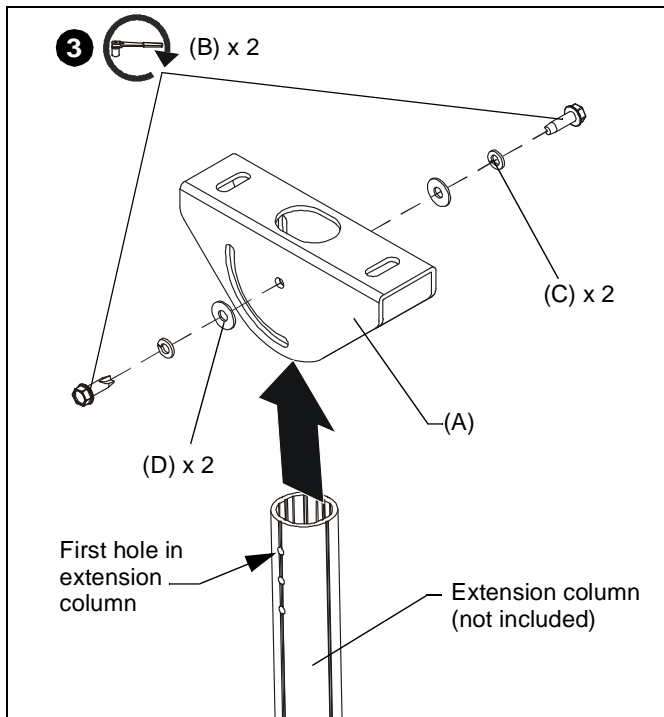

Figure 3
using two 5/16-18 x 1" hex head self-tapping screws (B), two 5/16" split lock washers (C) and two 5/16" flat washers (D) through fastener hole in CPA395 into first hole on each side of extension column. (See Figure 3)